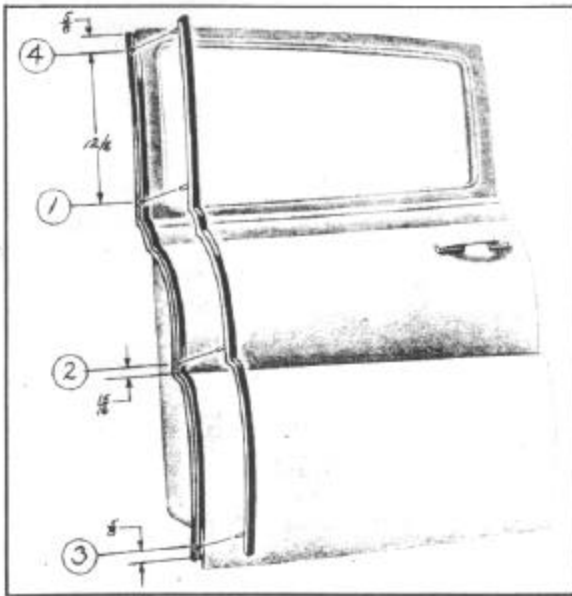

FIGURE 30
4. Install weatherstrip inserting clips in order shown, Figure 30, working rubber firmly into channel.
**NOTE: If it is necessary to drill these holes on some of the early models, drill four 1/4" holes spacing holes as shown in Figure 30.**